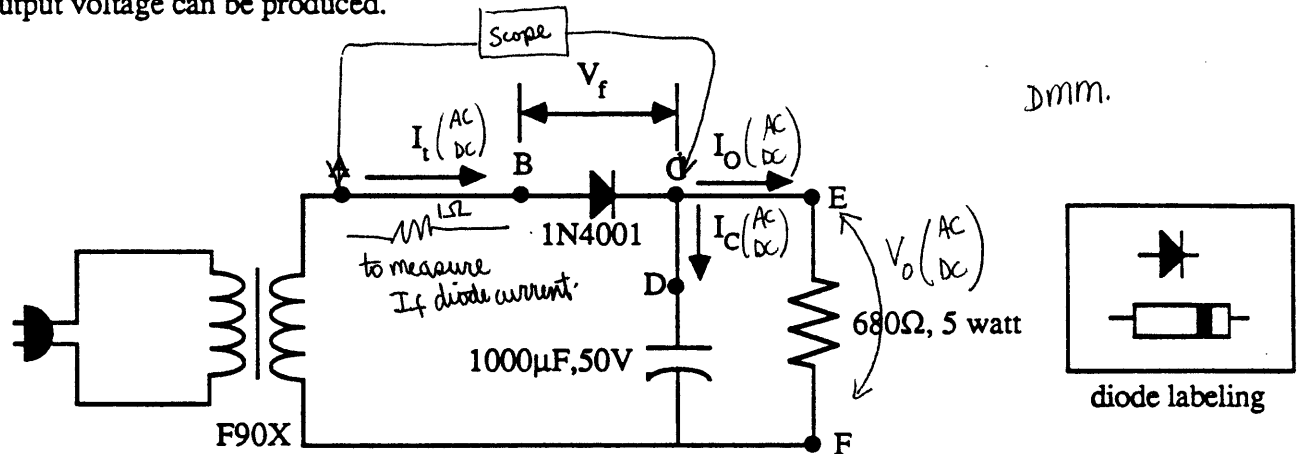
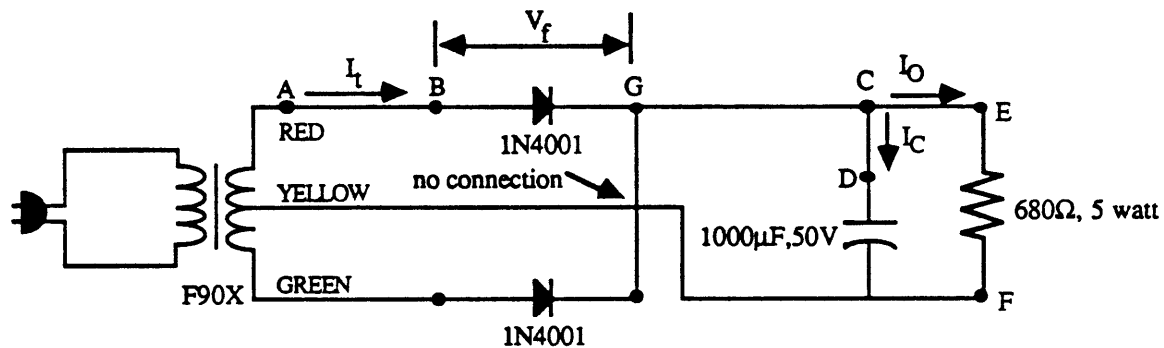

Figure 5.2 Half-Wave Diode Rectifier Power Supply
Figure 5.4 Full-wave rectifier power supply
- (1) Build the circuit shown in Fig. 5.2, being careful of the polarity of the capacitor and diode. See the insert for the diode polarity.
- (13) Repeat steps 2 through 11 using the circuit shown in Fig. 5.4. Record your data in Table 5.2 using the full-wave column.
- (1) Build the circuit shown in Fig.5.2 replacing the 680 ohm resistor by your RSB. Remove the CE jumper. Connect the scope GND and DMM COM to point F.
- (2) Connect the DMM VKS input to point C. Measure and record in Table 5.3 the so-called no-load DC and AC (RMS) voltages at point C.
- (3) Set the RSB to 6K and connect points C and E.
- (4) Connect the scope CH1 input to point C. Record the AC waveform at point C in Figure 5.4.
- (5) With the DMM still connected to point C, measure the DC and AC (RMS) voltages at point C. Record your results in Table 5.5.
- (6) Repeat step 5 with RSB values of 3 K, 2 K, 1.5 K, 1.2 K, 800 ohms, and 600 ohms recording your results in Table 5.5.